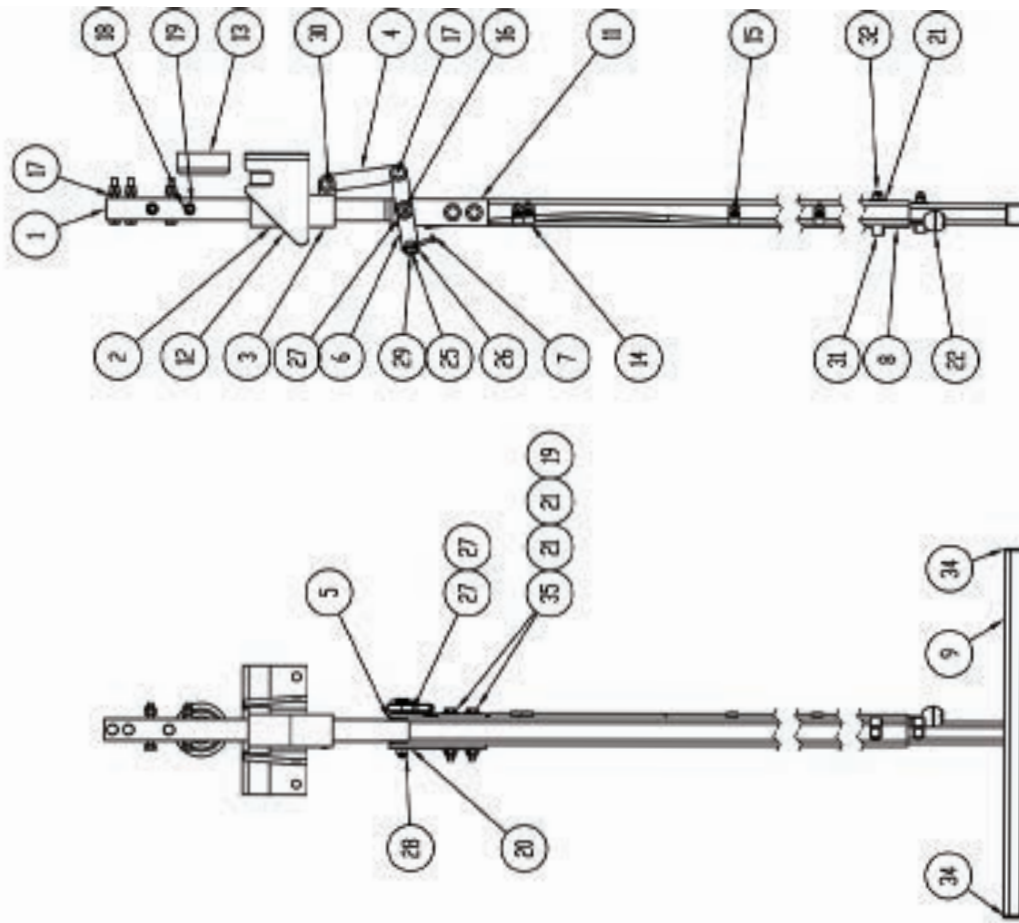

Figure 1B Pull Handle Pivoting Assembly
1. If removed during the drilling process, return the combined Gantry Base Assembly (1 & 2) and Ladder Rack (5) to the apparatus shelf. Set the Ladder Rack into the Rack Guide-Roller Assemblies (4).
2. Fasten the Bottom Base Assembly (2) to the apparatus shelf using 3/8" Grade 8 fasteners and washers (not included).
D. Mounting the Pull Handle & Pull Handle Catch (see Figures 1B and 4)
1. Attach the Pull Handle Assy (8) to the Gantry Base Assembly using the hardware provided.
2. With the system in the fully stored position, align the Catch-Lower Handle Assy (15) with the Pull Handle on the reinforced rear wall of the apparatus. Fasten assembly to rear wall (fasteners not supplied).
3. Align Rubber Bumper (13) with Pull Handle Pivoting Rod (1) using 5/16" hardware (see Figures 1B and 4, Detail A)
4. Adhere the Striking Injury Warning Label (19) beside the Pull Handle Catch Assembly so that it is visible to the operator.
1. Pull on the Pull Release Knob (22) to disengage the Latch (2) on the Pull Handle Latch Receiver (12) (see Figure 1B).